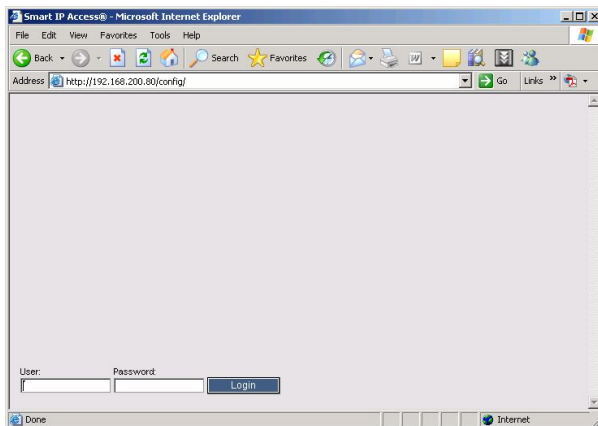

Figure 23 Login box
3. Login with the default IP address of the unit: <http://192.168.0.155/config>. (Do not start the address with **https**). The Login box appears see Figure 23.